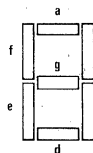
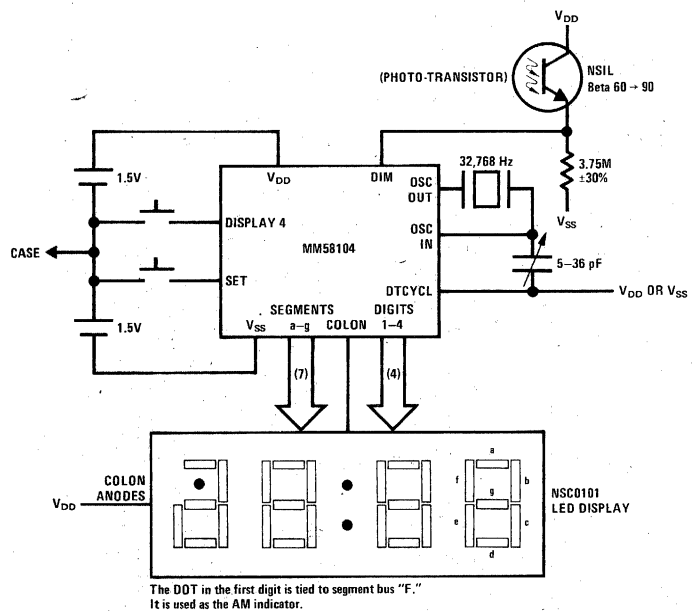

FIGURE 5. Character Display Font
FIGURE 6. Typical Application of MM58104 in LED Digital Watch System
**Display Multiplexing:** Outputs from each counter are time-division multiplexed to provide digit-sequential access to the time data. Thus, instead of requiring 28 leads to interconnect a four digit (7 segments/digit) watch, only 11 output leads are required. The character display font and segment identification is shown in *Figure 5*. *Figure 6* shows the interconnection of a LED watch system. The 4-digit outputs, colon output and the
7-segment outputs of the MM58104 are designed to interface directly with the NSC0101 LED display. The four digits of the LED display are multiplexed with a 25% duty cycle, 1024 Hz signal during Display. The digit drivers are turned off by the internally generated inter-digit blanking signal during the change of digits to allow the segments to change without "ghosting" of the Display. When MM58104 is used as shown in the typical application of *Figure 6*, the segment on currents are typically 9 mA. The NSC0101 LED Display gives excellent brightness under these drive conditions.
**Time Display:** The DATE and HOUR-MINUTES/SECONDS displays are controlled by a normally open switch connected to "Display" input as shown in *Figure 6*. DATE or HOUR is displayed in digit positions 1 and 2. MINUTE or SECOND is displayed in digit positions 3 and 4. Colon output will be "ON" except when the Display involves DATE. The two colon dots are to be connected in parallel with their anodes to  $V_{DD}$  and cathodes to the "COLON" output.
**Display Brightness Control:** The display brightness is a function of digit on-time which is a fraction of the digit multiplexers. The digit on-time varies from 1/8 to 7/8 of the digit multiplexer in steps depending on the logical levels of both "DIM" and "DTCYCL" inputs as shown in Table I. The "DIM" input has an internal pull-up resistor which will hold the open input to a logical "1." The logical levels at the "DIM" input can be established by a network as shown in Figure 6.